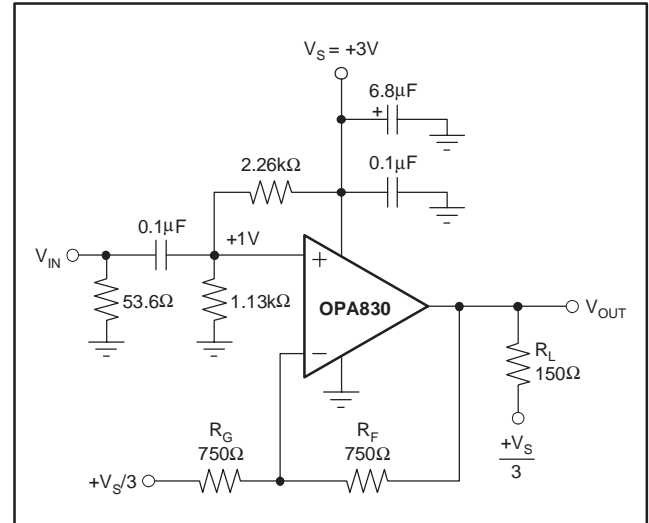
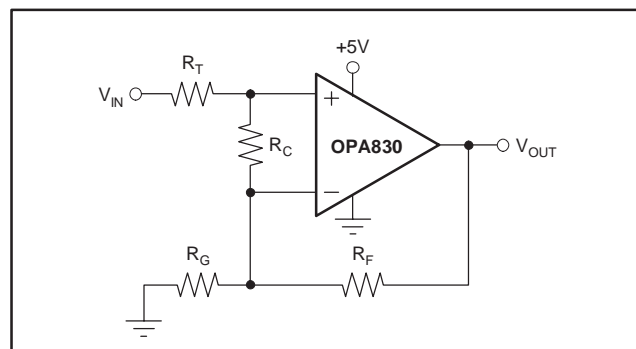

Figure 2. AC-Coupled, G = +2, +3V Single-Supply Specification and Test Circuit
Figure 7. Compensated Noninverting Amplifier
At $T_A = 25^\circ C$, $G = +2$, and $R_L = 150\Omega$ to $V_S/3$, unless otherwise noted (see Figure 2).
Figure 2 shows the AC-coupled, gain of +2 configuration used for the +3V Specifications and Typical Characteristic Curves. For test purposes, the input impedance is set to 50Ω with a resistor to ground. Voltage swings reported in
the Electrical Characteristics are taken directly at the input and output pins. For the circuit of Figure 2, the total effective load on the output at high frequencies is 150Ω || 1500Ω. The 1.13kΩ and 2.26kΩ resistors at the noninverting input provide the common-mode bias voltage. Their parallel combination equals the DC resistance at the inverting input (R_F), reducing the DC output offset due to input bias current.
Figure 7 shows a noninverting amplifier that reduces peaking at low gains. The resistor R_C compensates the OPA830 to have higher Noise Gain (NG), which reduces the AC response peaking (typically 5dB at $G = +1$ without R_C) without changing the DC gain. V_{IN} needs to be a low
Frequency response in a gain of +2 may be modified to achieve exceptional flatness simply by increasing the noise gain to 3. One way to do this, without affecting the +2 signal gain, is to add a 2.55kΩ resistor across the two inputs, as shown in Figure 7. A similar technique may be used to reduce peaking in unity-gain (voltage follower) applications. For example, by using a 750Ω feedback resistor along with a 750Ω resistor across the two op amp inputs, the voltage follower response will be similar to the gain of +2 response of Figure 2. Further reducing the value of the resistor across the op amp inputs will further dampen the frequency response due to increased noise gain. The OPA830 exhibits minimal bandwidth reduction going to single-supply (+5V) operation as compared with ±5V. This minimal reduction is because the internal bias control circuitry retains nearly constant quiescent current as the total supply voltage between the supply pins is changed.
The criterion for setting this R_S resistor is a maximum bandwidth, flat frequency response at the load. For a gain of +2, the frequency response at the output pin is already slightly peaked without the capacitive load, requiring relatively high values of R_S to flatten the response at the load. Increasing the noise gain will also reduce the peaking (see Figure 7).